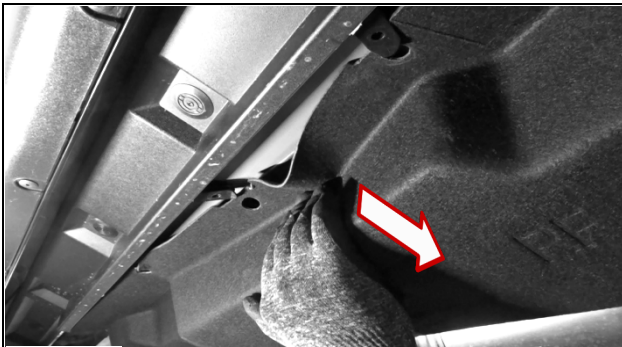

Fig. 2-2
- (b) Push the undercover towards the vehicle to slide it out from under each of the three (3) clips (P/N 51455-48020) to release it (Fig. 2-2).